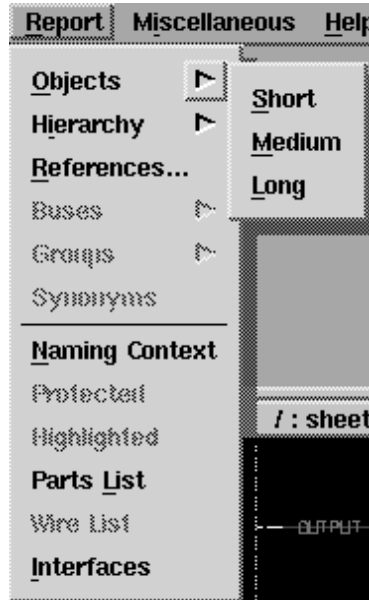

Figure 4-2. Board Level Schematic Sheet
2. **Open your board-level schematic.** Choose the “Open Sheet” icon from the palette. The board-level schematic sheet is displayed, as shown in Figure 4-2.